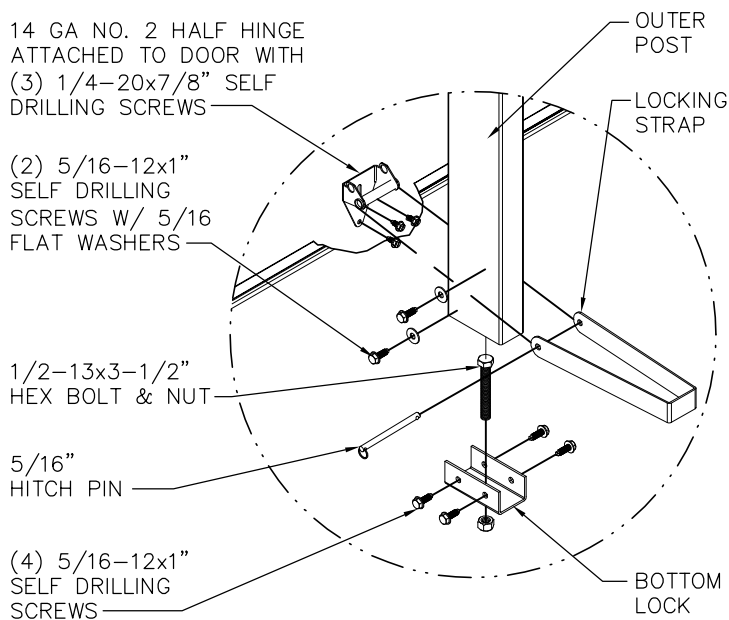

FIGURE 2
PLACE THE HALF HINGE JUST ABOVE THE LOWEST STRUT AND IN LINE WITH THE INTERMEDIATE HINGES AND ATTACH WITH (3) 1/4-20x7/8" SELF DRILLING SCREWS AS SHOWN IN FIGURE 2. ASSEMBLE THE BOTTOM LOCK PLATE BY SLIDING (1) 1/2-13x3-1/2" BOLT DOWN THROUGH THE TOP THE BRACKET AND SECURING WITH THE HEX NUT FROM BELOW. ATTACH THE BOTTOM LOCK PLATE TO THE BOTTOM OF THE OUTER POST WITH (4) 5/16-12x1" SELF DRILLING SCREWS AS SHOWN IN FIGURE 2.